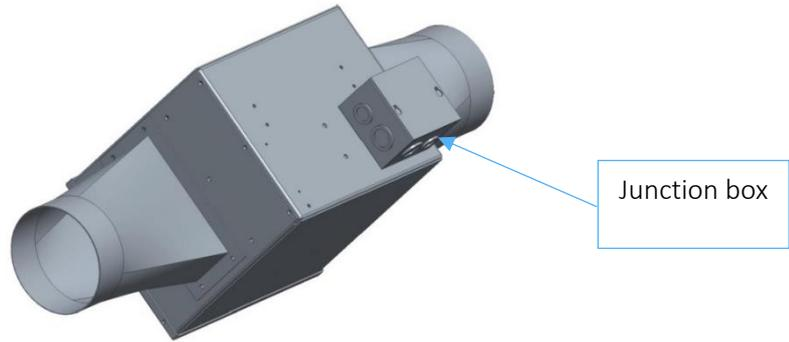

Fig. 34 Rear view of the projector 74-00013-01
- A. Open the lid of the junction box (Figure 34).